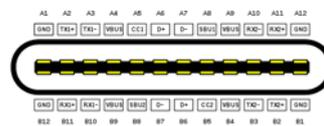

Figure 1: Front panel and rear of controller module
For connection to the unit under test (UUT), the 9922 provides a Micro USB and a USB Type C socket interface. Images of the front panel and rear of the controller are shown in Figure 1. Pin out definitions for both USB sockets are detailed in Table 1 and Table 2.
- ① Please turn on the power of the electronic load, then insert the 9922 banana plugs into the binding posts of electronic load. This includes the Load +/- and Vsense +/- connectors. The 9922 plug terminal group is designed to mate with the Load and Vsense terminal connectors of the 3310F series of electronic load. In cases where the 9922 controller cannot be directly mated with the connectors of DC load used, an adaptor cable kit is provided as well.
- ② + 5V Power input must be supplied through either the Micro USB or D-SUB connector for 9922 circuit operation. Both power input connectors are located on the rear panel of the 9922. (See Figure 1, right hand image). When using a Micro USB cable to supply power to the 9922, any power supply capable of providing $V_{OUT} = 5V$ and $I_{OUT} \geq 0.15A$ may be used and connected to the Micro USB power input connector of the 9922.
- ③ When opting to use the 9922's D-SUB power input connection, the 3302F mainframe needs to be purchased with the "9922 Power Supply" option. Connect the 3302F rear panel's D-SUB connector to the rear panel's D-SUB input of 9922, and the 9922 will be powered by 3302F.
- ④ The U.U.T output is connected to the Micro USB or USB Type C connector of the 9922. After these connections are made, testing can be started.